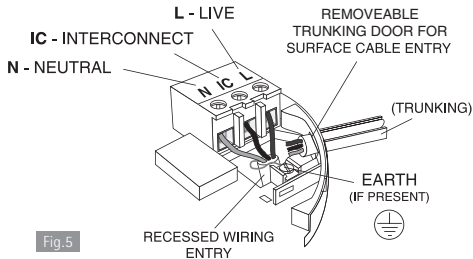

Fig.5
- IC: Interconnect** - see figures 5 and 6 and further information in Section 2.6.
4. If the mains wires are recessed, bring the wires through the rear hole in the mounting plate as shown in Figure 5.
- position the mounting plate so the cable trunking is as shown in Figure 5.